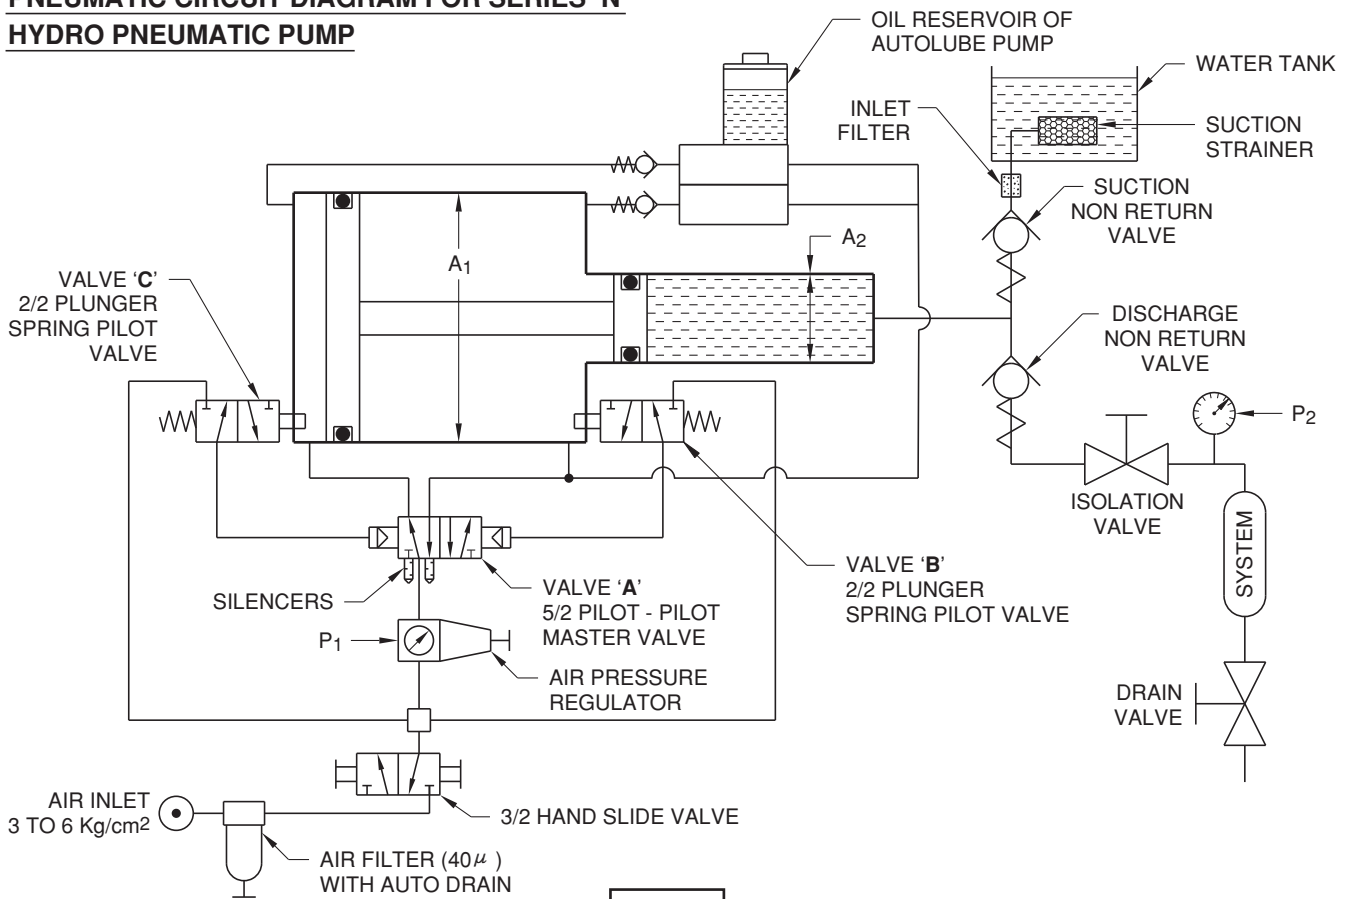

FIG. 4
6.1 The general layout of components used for proper installation of our Hydro Pneumatic Pump is given in Fig.1. The principle of operation is given in Fig.2, Fig.3 and Fig. 4.
The air to liquid intensifier shown in Fig. 2 and Fig. 3 is converted into a pump by automatically reciprocating the pneumatic cylinder by suitable valves as shown in Fig. 4.